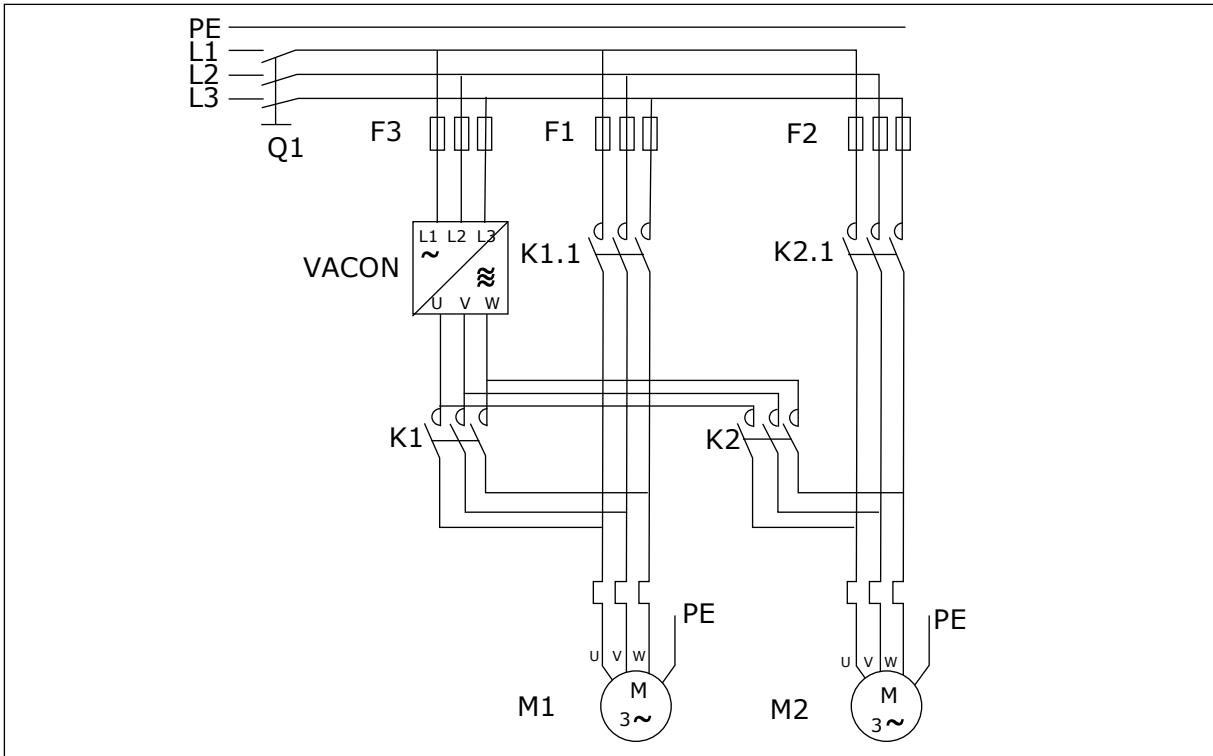
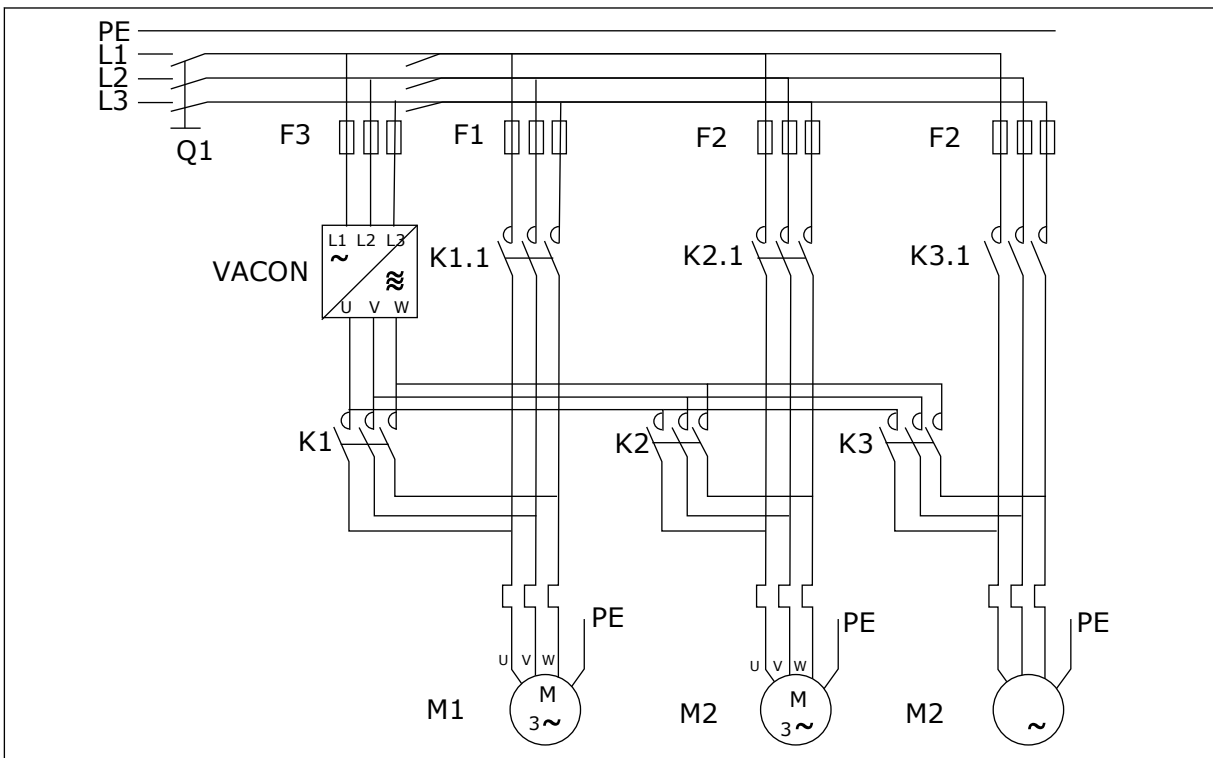

Fig. 100: Example of 2-pump autochange, main diagram
Fig. 101: Example of 3-pump autochange, main diagram
- External contactors controlled through the relay outputs of the AC drive connect the drives to the AC drive or to the mains. If the motor controlled by the AC drive is included in the autochange sequence, it is always controlled through the relay output activated first. The other relays activated later control the auxiliary drives (see *Fig. 100 Example of 2-pump autochange, main diagram* and *Fig. 101 Example of 3-pump autochange, main diagram*).
The automatic change of starting and stopping order is activated and applied to either the auxiliary drives only or the auxiliary drives and the drive controlled by the AC drive, depending on the setting of parameter 2.9.25, Automatics selection. By default, the Autochange is activated for 2 drives. See *Fig. 19 Pump and fan control application default I/O configuration and connection example (with 2-wire transmitter)* and *Fig. 100 Example of 2-pump autochange, main diagram*.